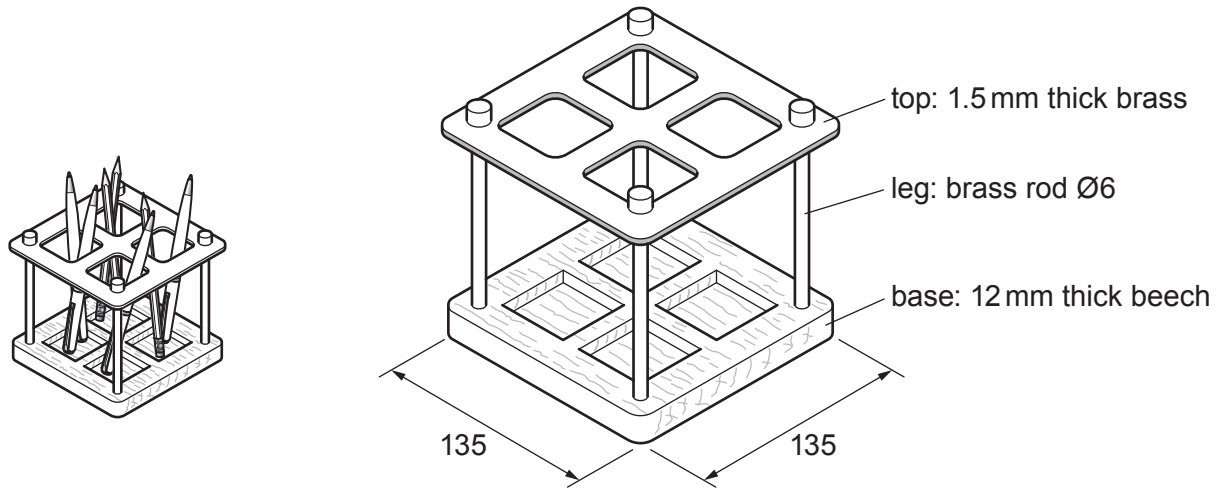

Fig. 11.1
- 11 Fig. 11.1 shows a pen and pencil holder.
- (d) Use sketches and notes to show a modification to the design of the pen and pencil holder shown in Fig. 11.1 that would make it easier to carry.